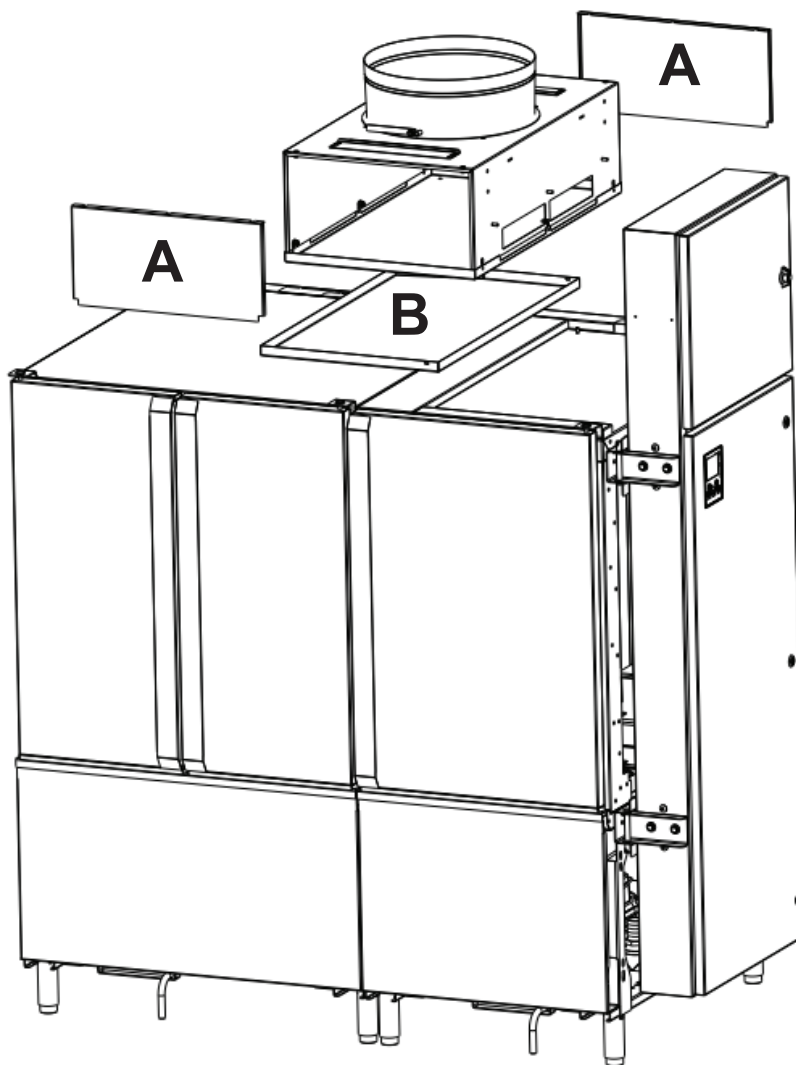

Fig. 2
1. Remove the front and rear panels by loosening the two nuts on top of each panel (Fig. 2, item A).
2. Remove the drain pan located in the base of the housing assembly (Fig. 2, item B).